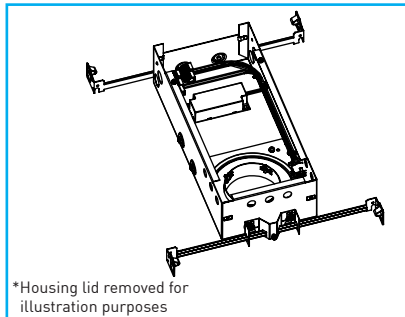

Fig.64
- Slide sled assembly into housing, pressing firmly until Velcro engages to retain sled in place **"Fig.64"**.